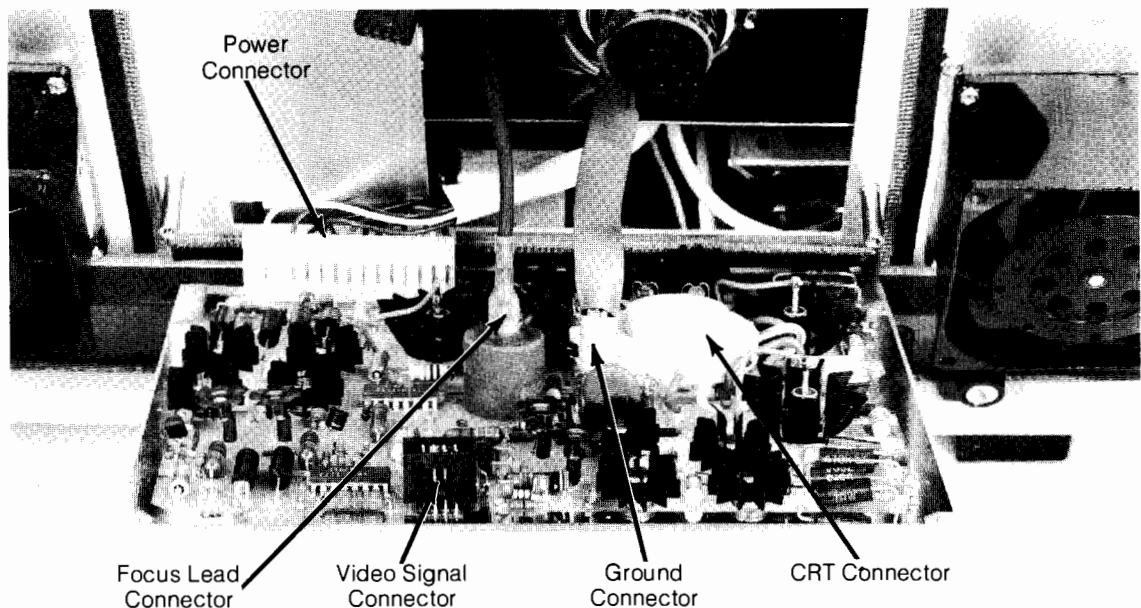

Figure 5-6. A6 Connections
- Remove the metal housing and disconnect the connectors shown in Figure 5-6 to remove the A6 assembly.